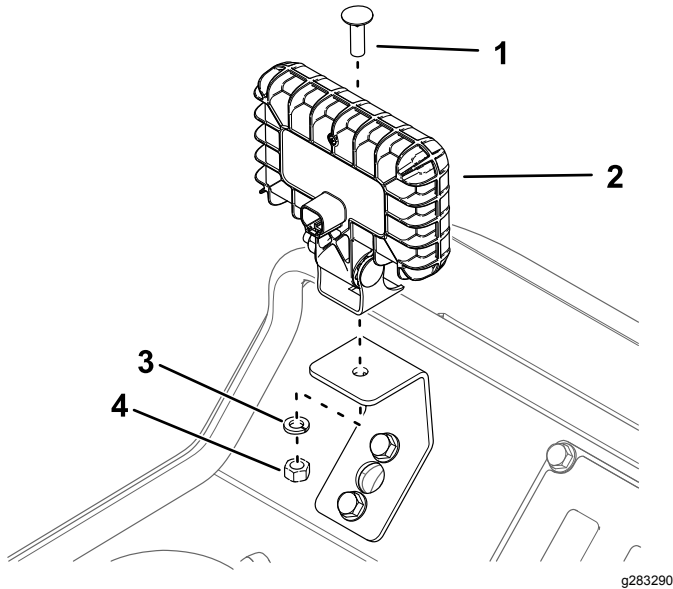

Figure 4
1. Thread-cutting screw (2)
3. Remove the bolt, washer, and nut from a light and use them to secure the light to the bracket (Figure 4).